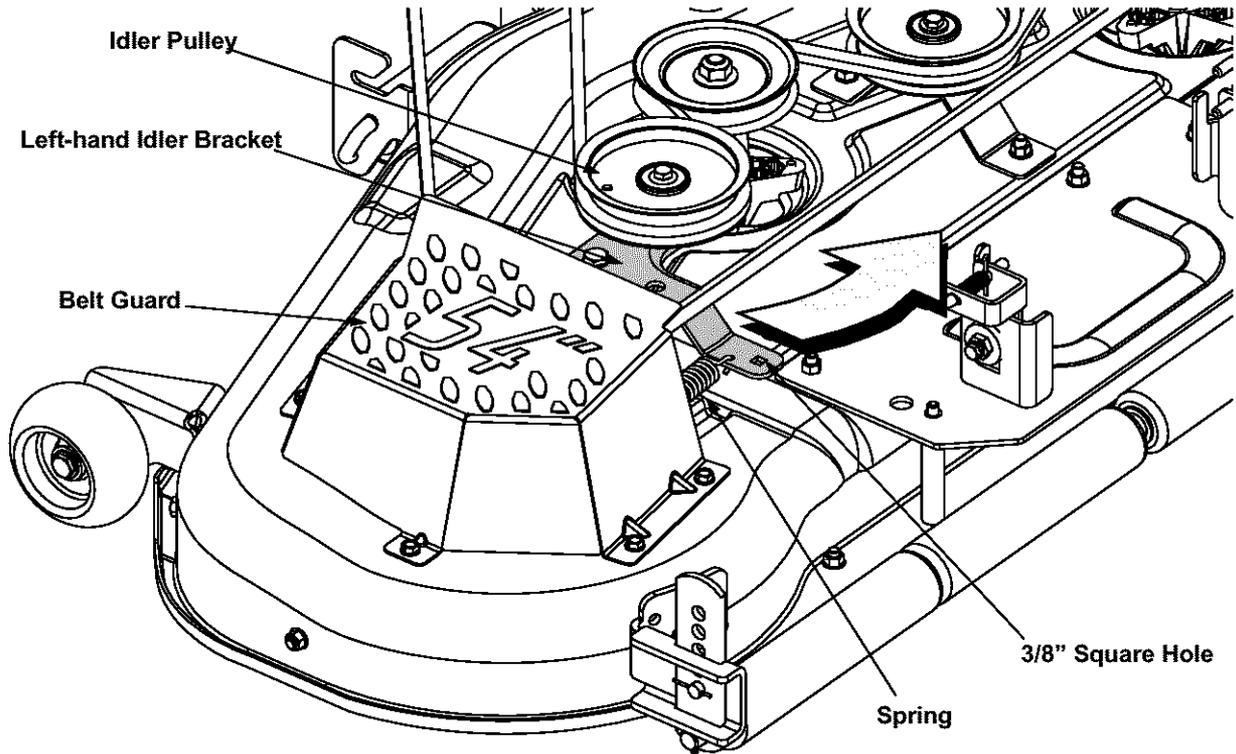

Figure 5
- Make certain that the PTO/Deck belt is routed around the spindle pulleys (found beneath the belt guards) and both idler pulleys as illustrated in Figure 5 before proceeding.
- Relieve tension on the deck idler by inserting a 3/8" drive ratchet wrench (set to "loosen") in the hole found in the idler bracket and pivoting the wrench handle counterclockwise. See Figure 5.